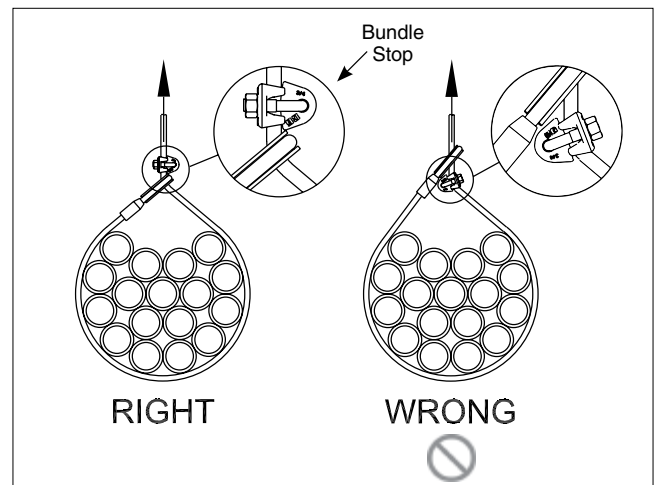

Figure 3
Certain conditions (such as extreme variation of the choke size) or improper installation may cause the eye of the choke hitch to disengage from the Bundle Clip and allow the eye to seat away from or below the Bundle Clip (see Figure 3). If this occurs, the Bundle Clip must be removed and installed in the proper position.
3. After initial loading, install the Bundle Clip. The orientation of the Bundle Clip on the live line is not an important consideration, as the assembly is of adequate size to prevent passage through proper size Crosby Thimble and next larger size Thimble. Insert U-bolt through the Bundle Clip. Properly position the clip base over the U-bolt and install nuts (See Figure 3). Use torque wrench to tighten evenly, alternating from one nut to the other until the bundle stop bottoms out on the clip base, and the recommended torque is reached (See Table 1).